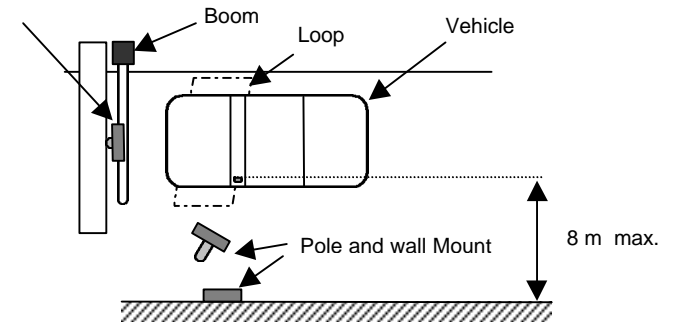

Figure 1. Positioning
1. Determine the area in which the unit must detect. The base-station unit should be placed facing the middle of this area (Figure 1)